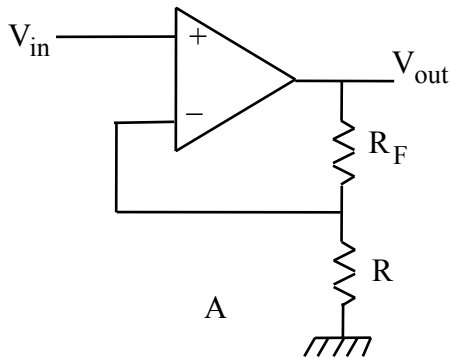

Figure 4.2 Non-inverting Amplifier
The two basic op-amp circuit configurations are shown in Figs. 4.2 and 4.3. Both circuits use negative feedback, which means that a portion of the output signal is sent back to the negative input of the op-amp. The op-amp itself has very high gain, but relatively poor gain stability and linearity. When negative feedback is used, the circuit gain is greatly reduced, but it becomes very stable, limited only by the temperature dependence of the resistors  $R$  and  $R_F$ . At the same time, linearity is improved and the output impedance decreases.
where the denominator is the difference between the voltages applied to the + and - inputs. We use the symbol  $G$  for the gain of the complete amplifier with feedback:  $G \equiv V_{out}/V_{in}$ . This gain depends on the resistor divider ratio  $B \equiv R/(R+R_F)$ . In feedback amplifier lore  $A$  is called the open loop gain,  $G$  is called the closed loop gain, and the product  $A \cdot B$  is called the loop gain. You can see the reason for these names if you imagine opening the feedback loop in Fig. 4.2 by disconnecting the - input.
The basic formula for the gain of feedback amplifiers is derived in FC, Section 12.5. From Fig. 4.2 we can see that:
2. (3 points) Calculate the values of low frequency gain  $G_0$  (choose the correct version of the formula) and the bandwidth  $f_B$  for the non-inverting amplifier in Fig. 4.2. Consider the cases with  $R_F = 100$  k $\Omega$  for all, and  $R = 100$   $\Omega$ , 1 k $\Omega$ , and 10 k $\Omega$ . Also consider the voltage follower, with  $R_F=0$  and  $R=\infty$  (note there are four cases). Draw Bode plots for the open loop gain and the four closed loop gains on the same graph. Estimate the input and output impedances of the amplifier with  $R_F = 10$  k $\Omega$  and  $R = 100$   $\Omega$  for 1 kHz sine waves.